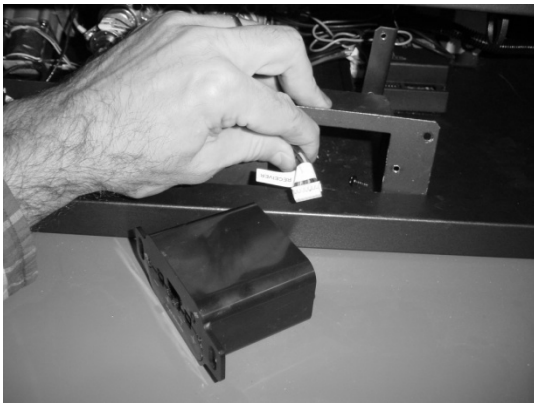
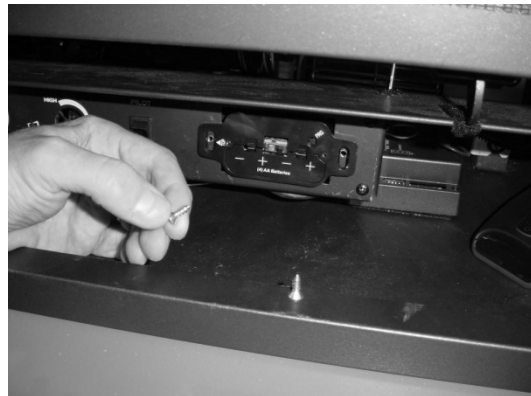

Figure 27
Figure 28
- 18 Pull the “RECEIVER” connector through the control panel and attach to the receiver (see Figure 27). Then attach the receiver to the control panel with the two #8 machine screws (see Figure 28).